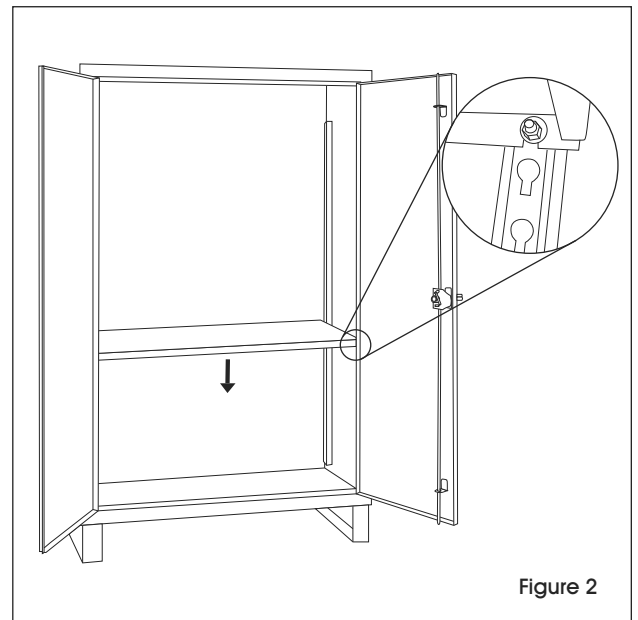

Figure 2
4. Set shelf on desired level with bolts from step 3. Edge of shelf should go between flange nuts and shelf channel strip. (See Figure 2)